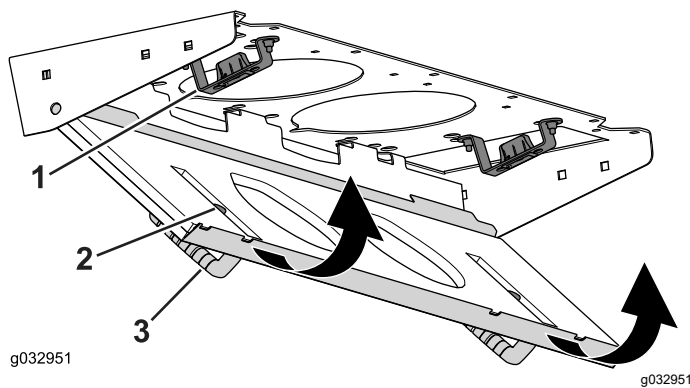

Figure 96
4. Rotate the filter screen around the tabs until the latch locks into the latch-mount assembly (Figure 96).